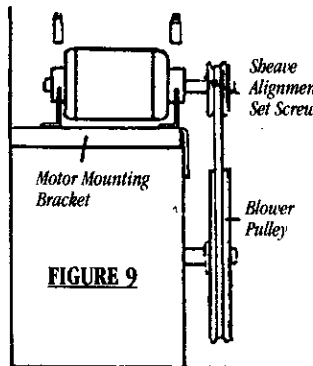

FIGURE 9
6. Install belt from motor sheave to the blower pulley. Align the sheave and pulley as shown. Move motor sheave to achieve alignment; do not move blower pulley (see Figure 9).